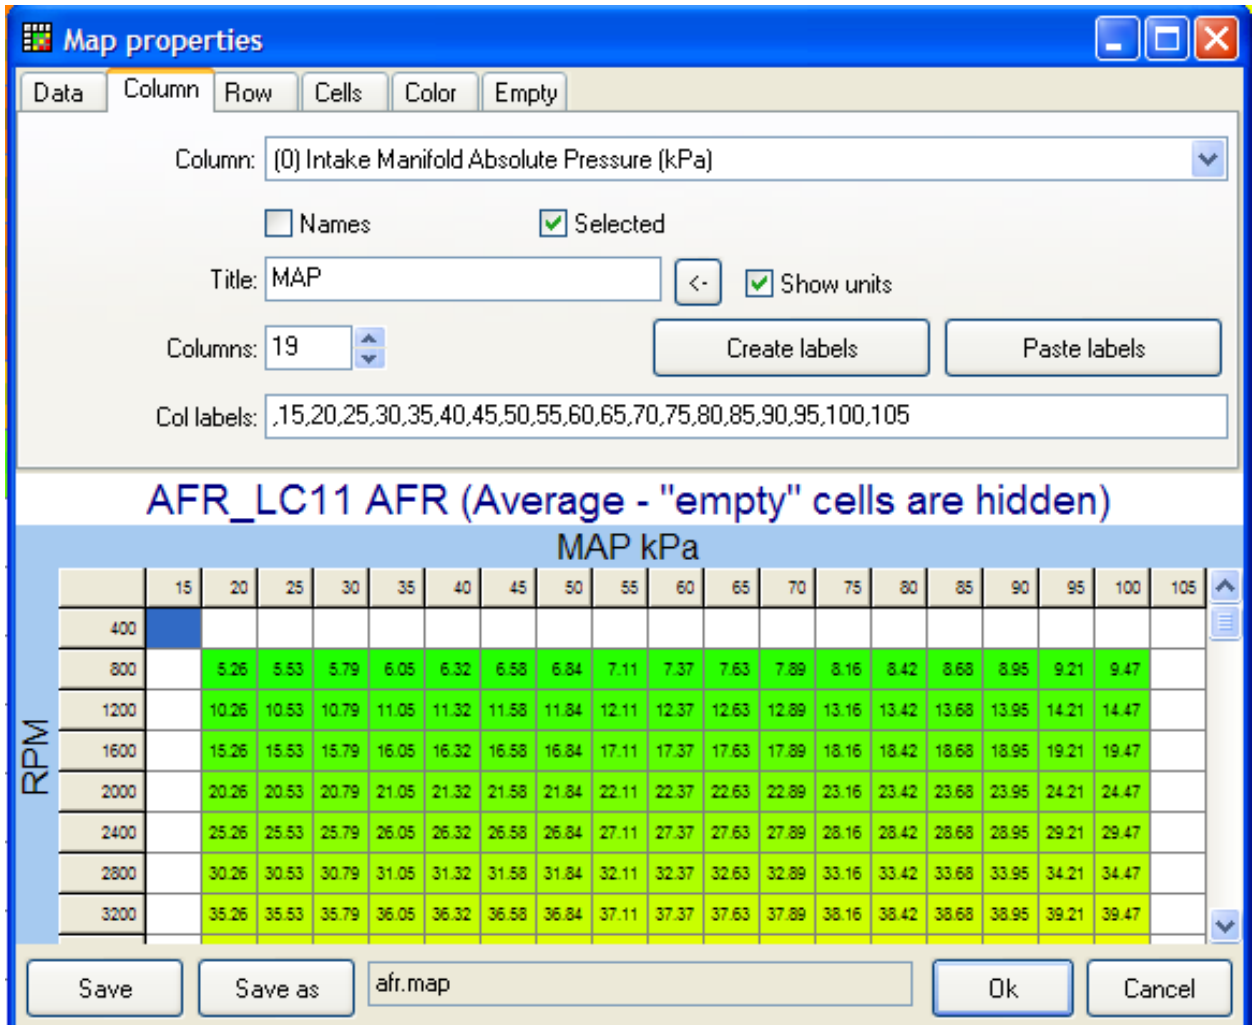

Figure 6: AFR Map Creation – Column
5. Select as data shown in Figure 6.